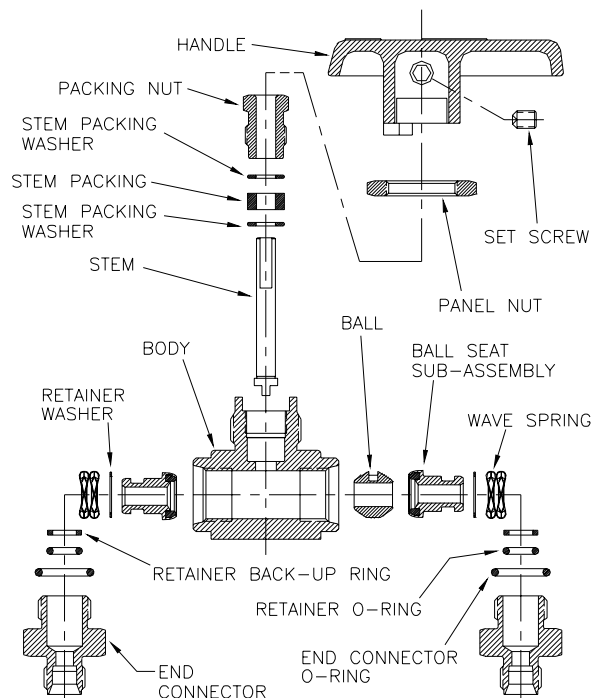

Figure 2: BLS Series Valve with PTFE Packing Exploded View
8. Refer to Figure 2. Stack the three Stem Packing components on the Stem in the following order, with the first item being placed at the bottom of the Stem: